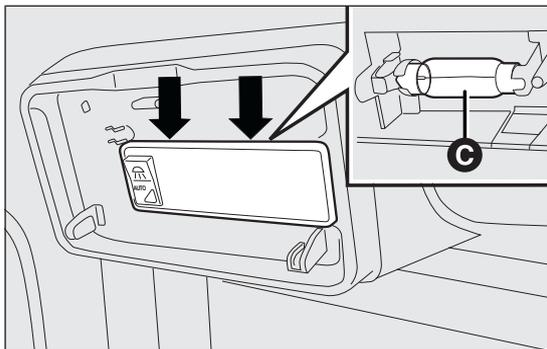

fig. 155
- change the bulb C fig. 155 by releasing it from the side contacts and making sure the new bulb is correctly fastened between these contacts;